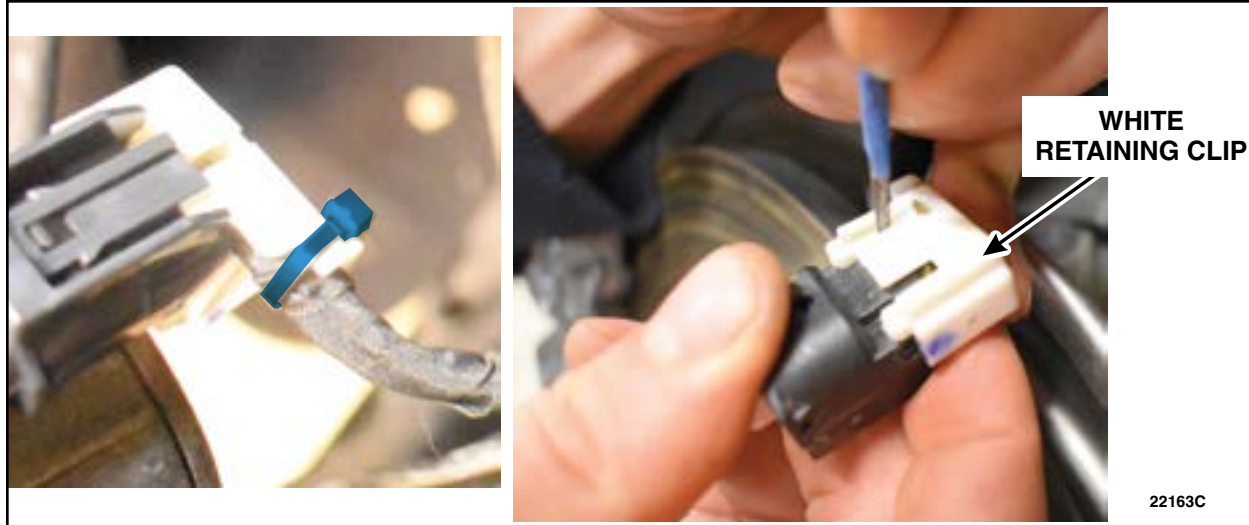

FIGURE 3
6. Remove the tie strap connecting the retaining clip to the harness. Then, using a small screwdriver, remove the white retaining clip from the connector. See Figure 3.